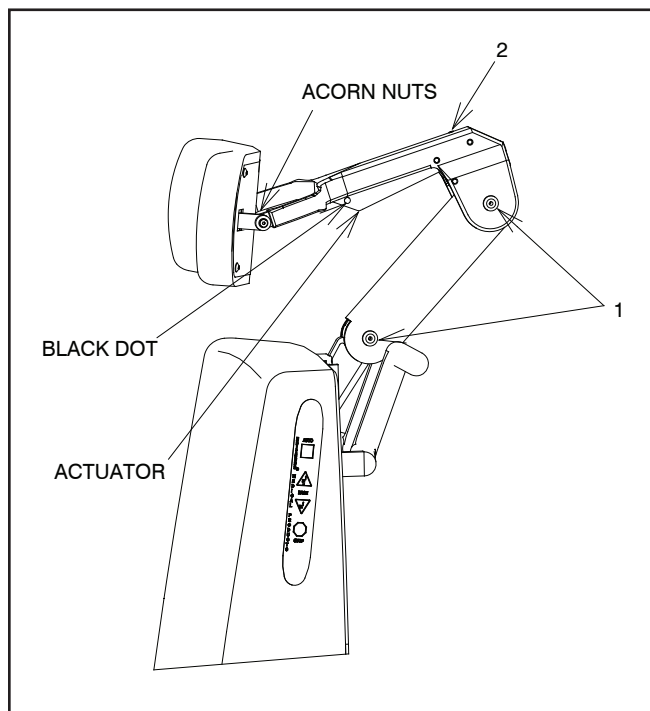

FIGURE 5
3.7.2.1. The No. 18, 22 headrest is designed so it can be operated with just one hand. To unlock, squeeze the clear plastic actuator into lock housing. This will allow both pivots of the articulating arm to rotate so the headrest can be moved to a new desired position. Once in the new position, release the actuator. Make sure the actuator expands to its original position fully exposing black dot on handle to insure a positive lock. The headrest pad is free to rotate at all times. (See Figure 5).
3.7.3.1. There are three adjustments provided on the No. 18, 22 headrest. The first is the tension on the pad rotation. By tightening the two hex acorn nuts on the pad pivots with a 3/8" open end wrench, the tension will be increased. To adjust the drag on the pivots of the articulating arm, loosen the set screw in the center of the pivot (Figure 5, item 1) with a 3/32" hexagon key wrench. Next, tighten the pivot screw on the other side of the pivot, with a 1/8" hexagon key wrench. Now, retighten the set screw to retain the pivot screw at the new adjustment. Either pivot may be adjusted.
3.7.3.2. The third adjustment is for proper clearance of the block dot to indicate that the headrest is properly locked. If the dot does not fully clear the lock housing when the headrest is locked securely, turn the set screw located at the top of the lock housing (Figure 5, item 2) counterclockwise until the dot on the actuator is fully exposed.
3.7.5.1. A single handle on the rear of the No. 11, 21, 31 headrests controls the locking mechanism. To unlock, grasp the handle and turn counter-clockwise. Change the tilt of the headrest until it is in the desired position. To lock, turn the handle clockwise until snug. (See Figure 5, No. 11 Headrest shown)